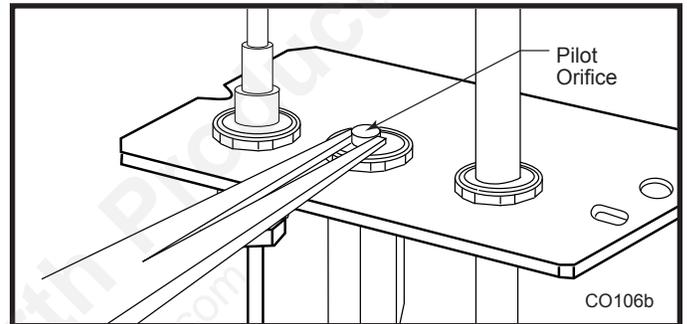

Fig. 77 Remove pilot orifice.
- Remove pilot orifice with needlenose pliers. (Fig. 77) **NOTE:** Use a wrench to hold pilot tube in place while removing the orifice.